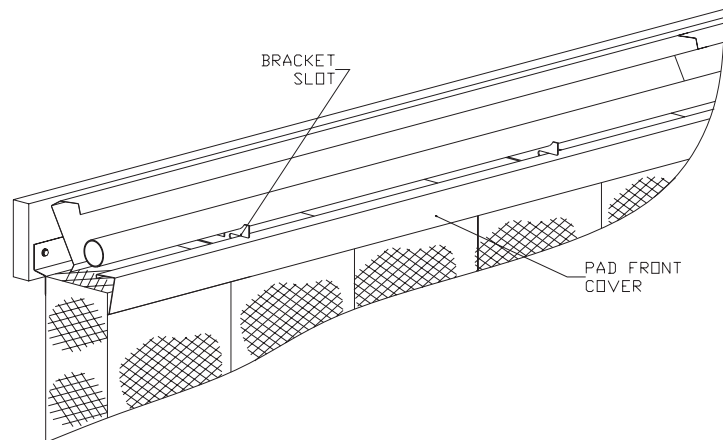

Figure 16
**After the pad installation,** install the pad front cover. Beginning at the drain end, install the first section of the pad front cover by inserting the short let into the slots in the pipe holder brackets as shown in Figure 16. The end of the pad front cover should be aligned with the edge of the first pad. Continue installing pad front cover sections until complete.